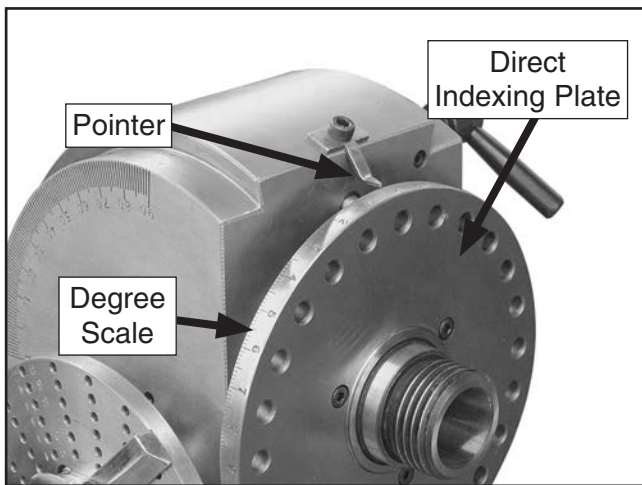

Figure 26. Direct indexing plate.
2. Rotate the spindle by hand until the zero point of the degree scale is aligned with the pointer, as shown in **Figure 26**.